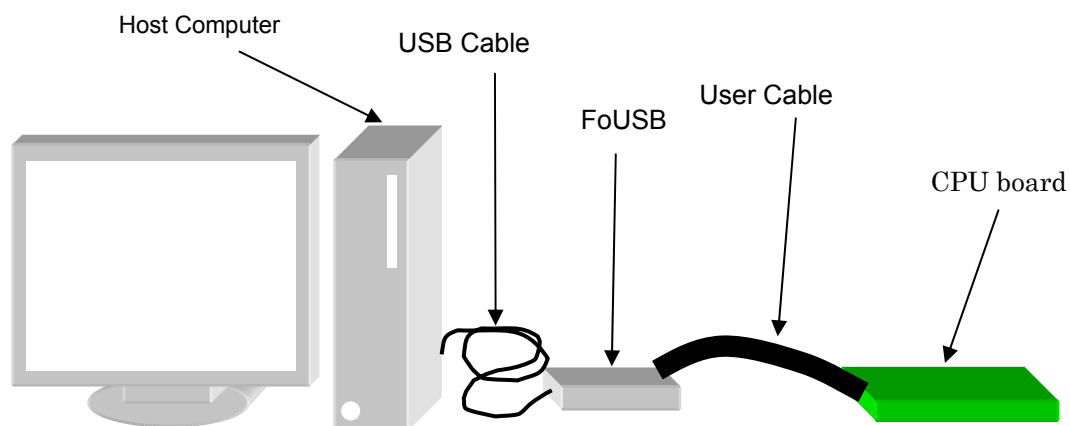

Figure 4-8 Connection Diagram of CPU board
- 2) Ensure a computer and the CPU board are connected (Refer to Figure 4-8 Connection Diagram of CPU board).